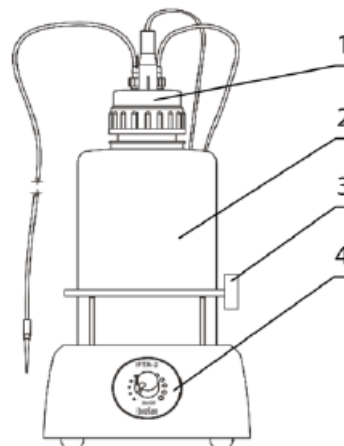
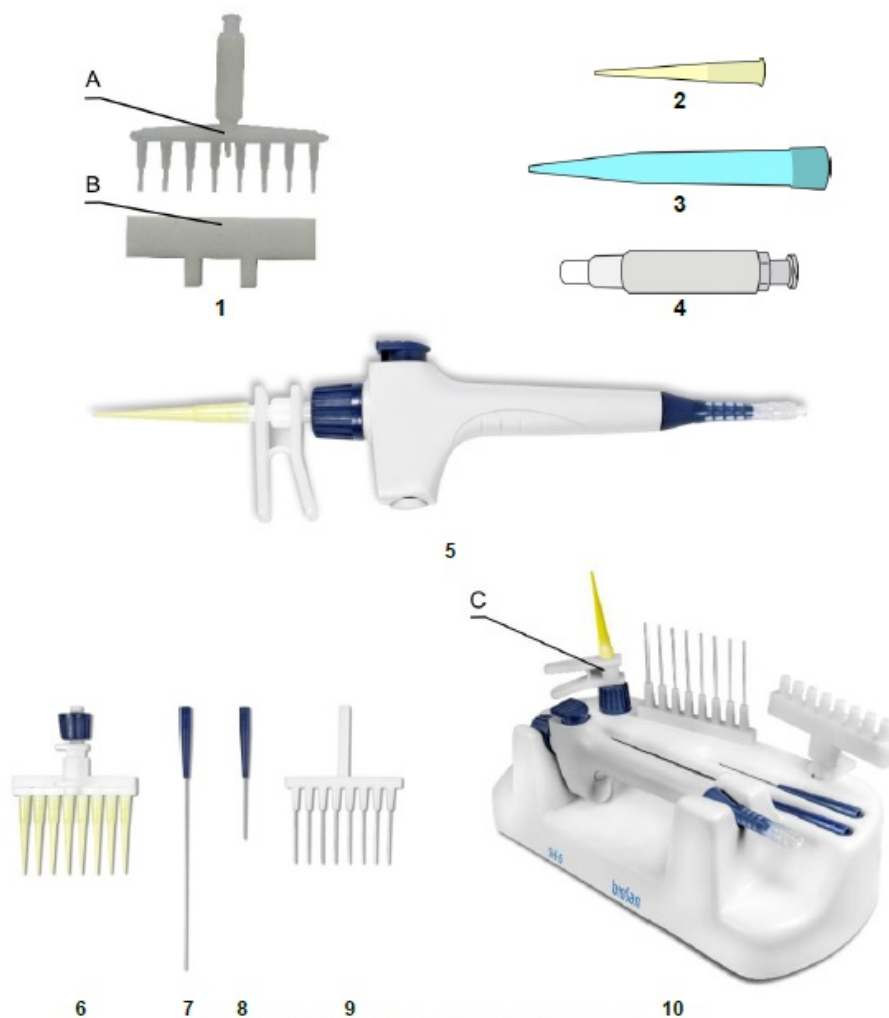

Figure 3. FTA-2i front view.
Figure 8. Optional accessories and replacement parts
- Install the trapping flask (fig. 3/2) on the unit.
- Screw on the lid with the sensor needles and valves for tubing (fig. 3/1) to trapping flask.
- Place the microtubes for the aspiration tip into the holder (fig. 3/3).
- Remove microtubes and aspiration tip from the holder (fig. 3/3). Remove the aspiration tip (fig. 5/1) from the MA-U adapter and connect the MA-8 aspiration tip (fig. 8/1A).
- Unscrew the MA-U adapter from the aspiration tube (fig. 5/3) and connect the HAS-1 hand operator (fig. 8/5) by screwing it to the fitting.
3. (For model FTA-2i) Regulate the aspiration intensity with the regulator knob on the front panel of the unit (fig. 3/4). Clockwise turning direction increases power, counter clockwise – decreases. Current intensity is indicated by a light ring around the regulator knob.
MA-8 , 8-channel aspiration tip (fig. 8/1A) with holder (fig. 8/1B)	BS-040108-BK
HAS-1 , hand operator set (only for FTA-2i). Set includes: Handheld vacuum controller with adapter (fig. 8/5), 8-channel adapter (with ejector) for 200 µL tips (fig. 8/6), 1-channel adapter with 125 mm stainless steel pin (fig. 8/7), 1-channel adapter with 40 mm stainless steel pin (fig. 8/8), 8-channel adapter with 35 mm stainless steel pin (fig. 8/9), 1-channel adapter (with ejector) for 200 µL tips (fig. 8/10C), Stand SH-6 for hand operator parts (fig. 8/10)	BS-040118-PK
Aspiration tip, 200 µL, 1000 pcs. (fig. 8/2)	BS-000001-S04
Aspiration tip, 8 channels, for MA-8 (fig. 8/1A)	BS-040108-S24
MA-U , universal adapter for 200/1000 µL single use tips (fig. 8/4)	BS-040118-AK
Aspiration tip, 1000 µL, 1000 pcs. (fig. 8/3)	BS-000001-S05